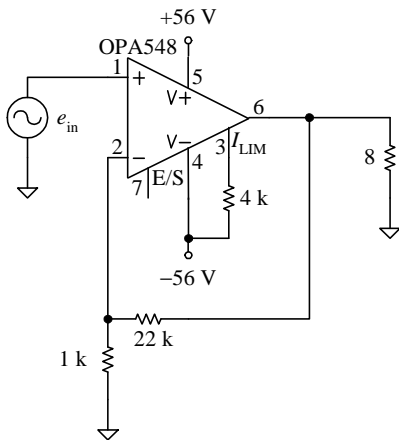

Figure 4-17 Schematic for Example 4-8
- Calculate the gain and the current limit for the circuit in Figure 4-17.